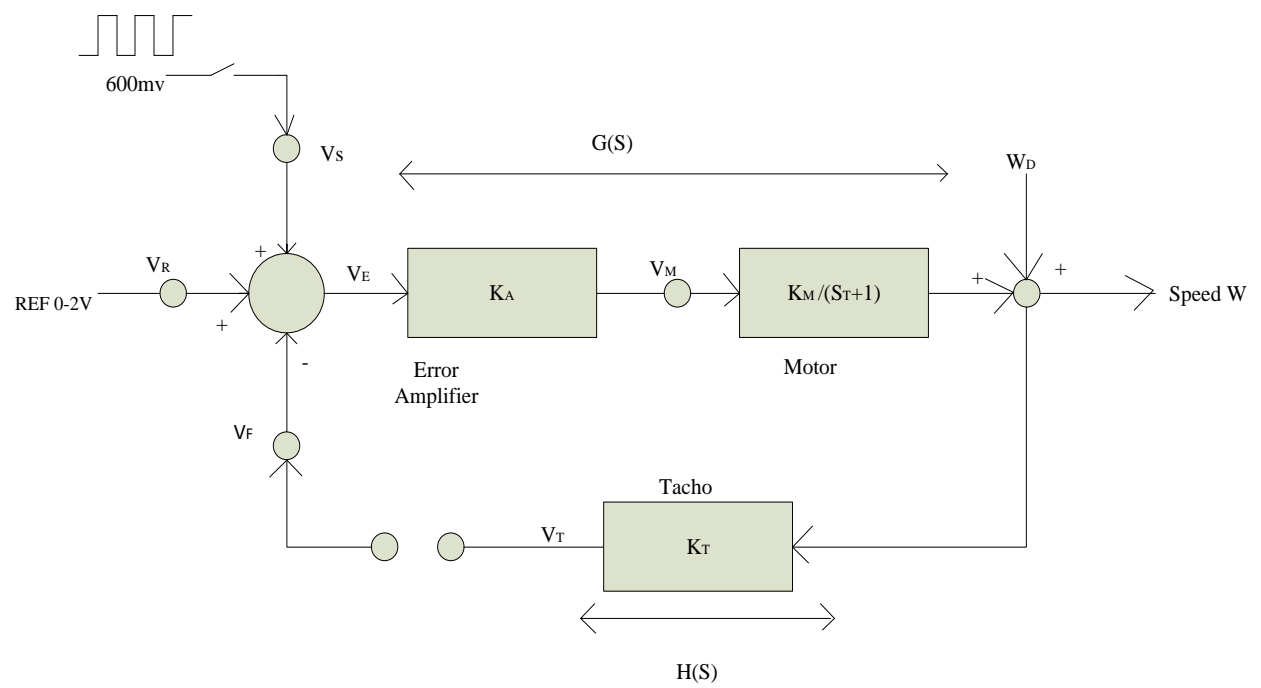

Fig 3.1 Block Diagram of DC Servo Motor
1. Connect the circuit as shown in the Fig 3.1